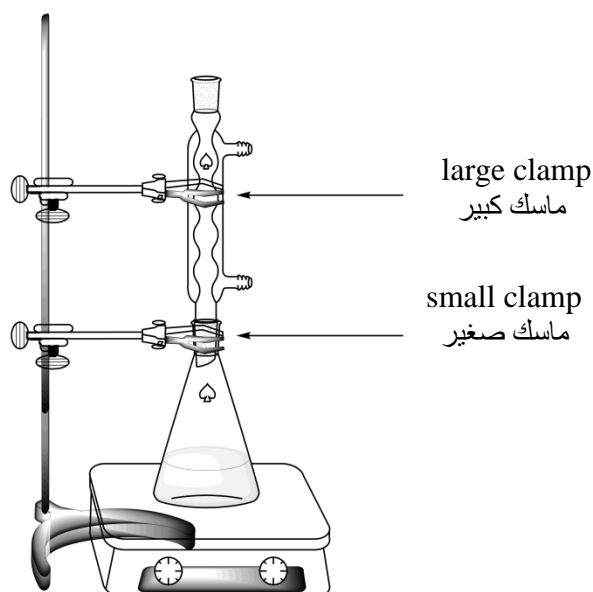

Figure 1. Setup for heating the reaction mixture under reflux
4. **Attach** the reflux condenser by loosening the large clamp and adjusting the ground joints (see Figure 1). **Raise** your HELP card. A lab assistant will come to turn on the water and set the hotplate.
2. **Perform** the recrystallization of the crude product contained in the 50 mL ground-joint Erlenmeyer flask with the appropriate amount of this water/ethanol mixture, using the same setup as for the reflux heating (see Figure 1). **Raise** your HELP card. A lab assistant will come to turn on the water and set the hotplate. **Add** the solvent by the top of the condenser, if needed.